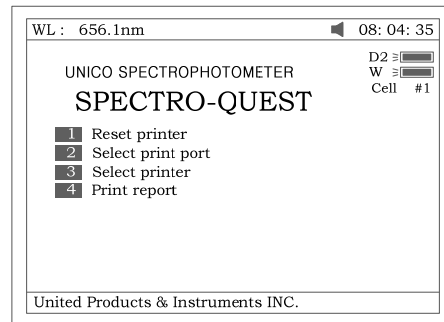
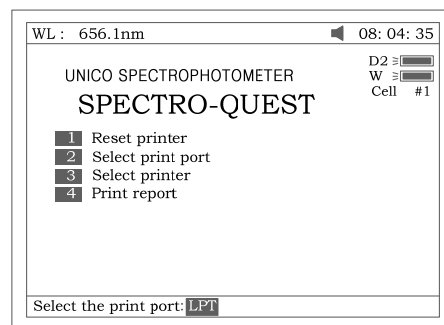
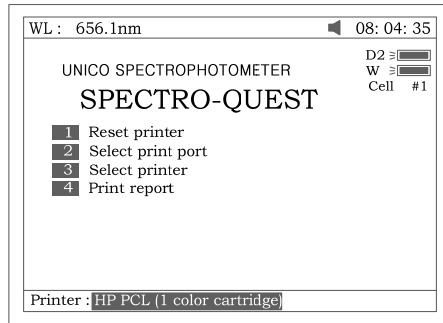
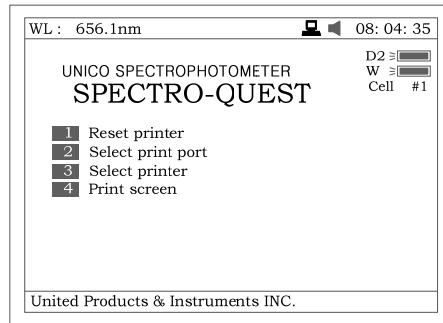

Fig 75
Fig 76
Fig 77
Fig78
Press **[2]** to set printer (Fig 75). **[ESC/STOP]** to exit.
1. Press **[1]** in **Fig 75** to Reset Printer.
2. Press **[2]** in **Fig 75** to select print port (LPT or Comm., Fig 76).
3. Press **[3]** in **Fig 75** to select printer (HP PCL (1 color cartridge), PCL (black mode), Epson ESC/P or Epson/P2 or above, Fig77).
4. Press **[4]** in **Fig 75** to select print mode. If you select “Print screen” mode, a little icon will be displayed on the top line of the screen (Fig 78), if you select “Print report” mode, the little icon will disappear.